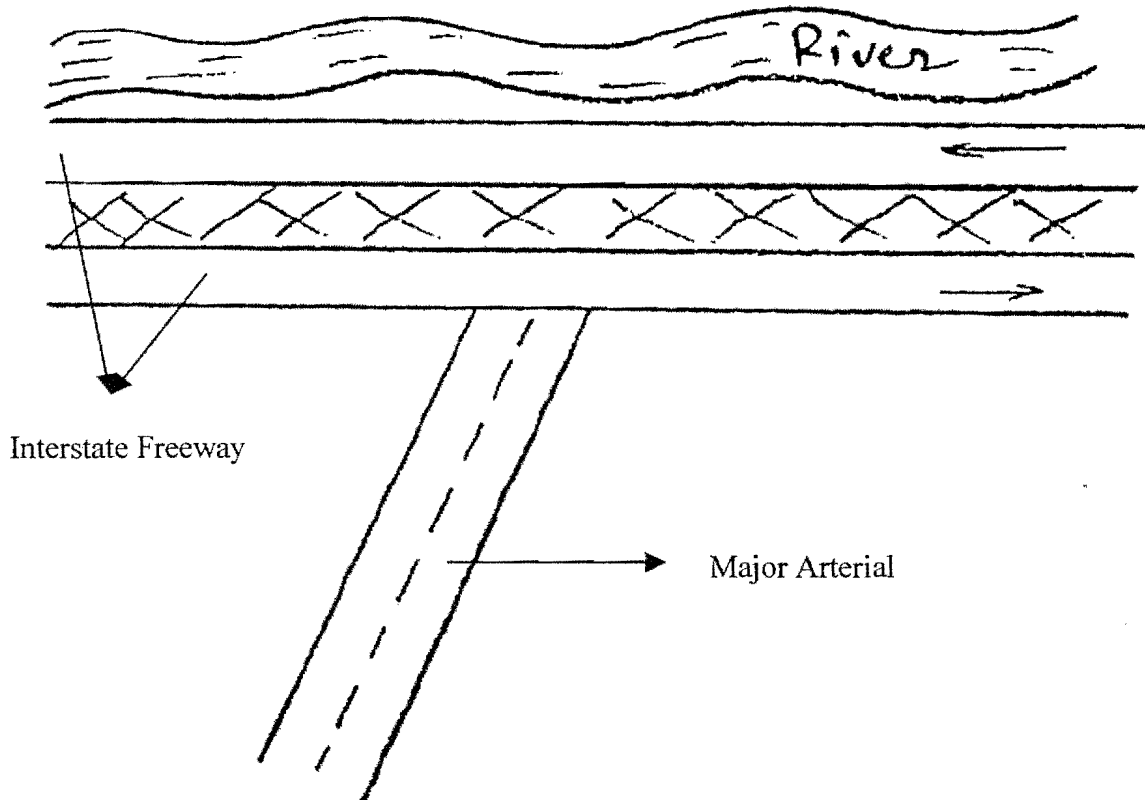

Figure. 5 Y Intersections
- 4.(a). A major arterial meets an interstate freeway running along Sarawak River at a Y intersection as shown in the Figure.5 below. Assuming that all traffic movements from and to the freeway are heavy traffic. Neatly sketch all ramps to transfer traffic. Show all directional movement by arrow and show all bridge (interchange/flyover) structure. Construction of ramps over or near the river is prohibited.